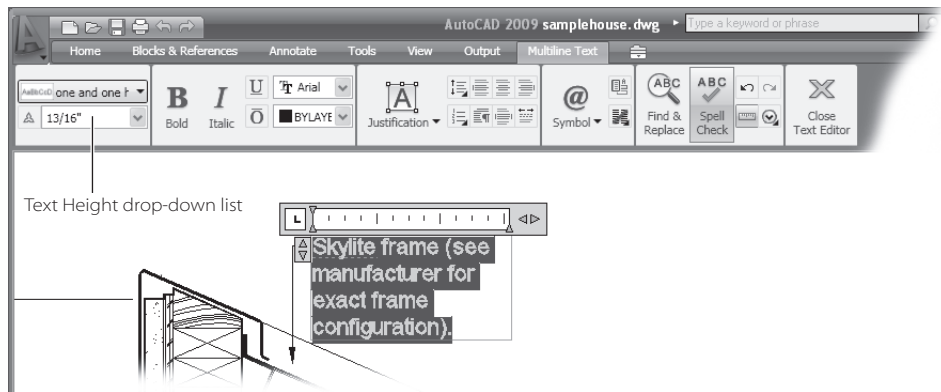

Figure 9.3
1. Double-click an existing Mtext object to display the Multiline Text tab and the text in a Text panel, as shown in Figure 9.3.